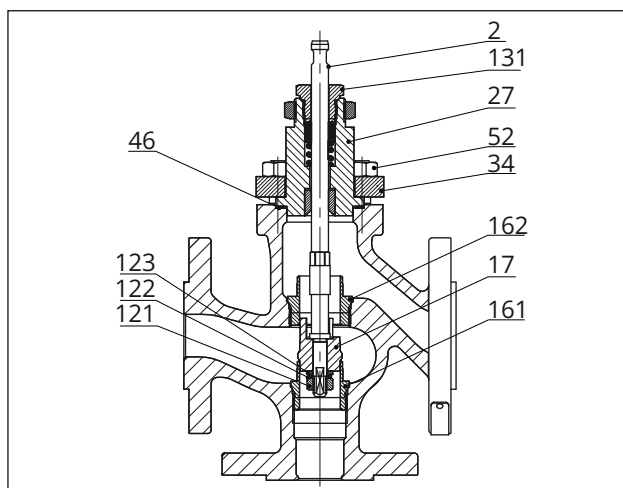

Fig. 23: Valve in DN 15 and 25/NPS ½ and 1
12. Apply a suitable lubricant to the thread and sealing cone of the new bottom seat (161).
13. Screw in the bottom seat (161). Observe tightening torques.
14. Insert new plug (17). Make sure that the three skirt projections face upwards.
15. Apply a suitable lubricant to the thread and sealing cone of the new top seat (162).
16. Screw in the top seat (162). Observe tightening torques.
17. Carefully guide the plug stem (2) from above through the plug (17).
18. Slide the retaining washer and shim (122, 123) from below onto the plug stem (2).
19. Thread and tighten the hex nut (121) onto the plug stem (2). Observe tightening torques.
20. Apply a suitable lubricant to all packing parts and the plug stem (2).
21. Carefully place the valve bonnet (27) and flange (34) over the plug stem (2) and the studs (51) onto the body (20). Make sure that the gasket (46) is properly seated in the body.
22. Carefully slide the packing parts over the plug stem into the packing chamber using a suitable tool. Observe the proper sequence (see Fig. 23).
23. Fasten down the flange (34) with the body nuts (52). Tighten the body nuts gradually in a criss-cross pattern. Observe tightening torques.
24. Apply a suitable lubricant to the thread of the threaded bushing (131). Screw in the threaded bushing and tighten it. Observe tightening torques.